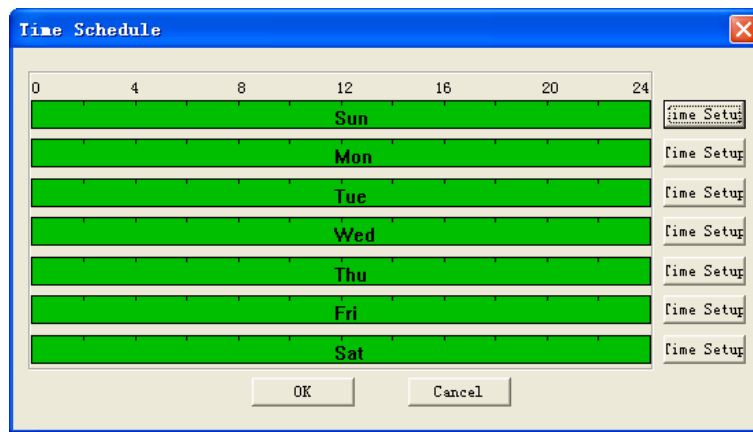
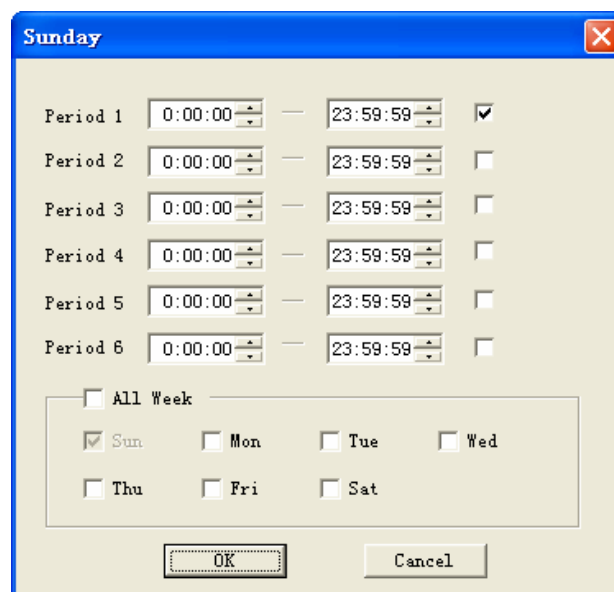

Figure 7-39
Figure 7-40
- ✧ Period: Here is for you to set record period. Click set button, you can see an interface is shown as in Figure 7-39. In Figure 7-39, click time set button, you can see an interface is shown as in Figure 7-40. Here you can set time period.